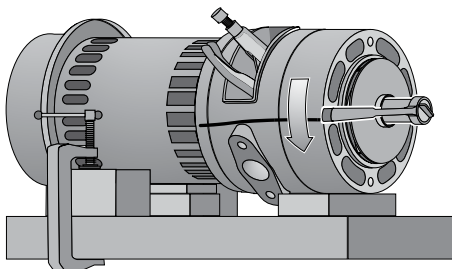

Figure 18
- Step 8. Hold the motor shaft with pliers or vice grips through the opening in the pump adapter. Unscrew the impeller nut off the end of the shaft (see Figure 18).